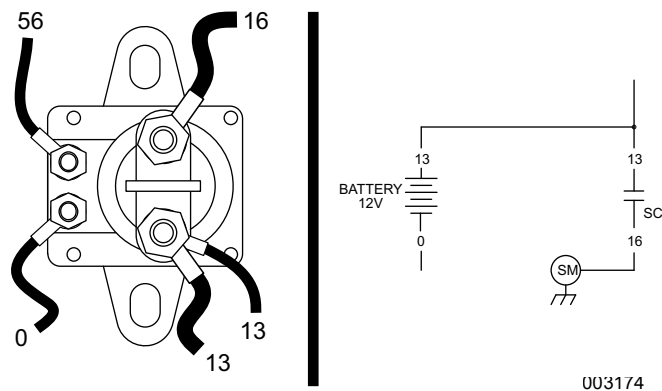

Figure 3-7. The Starter Contactor (Single Cylinder Units)
See Figure 3-7. The Starter Contactor (SC) is located in the engine compartment and is mounted against the firewall. The SC provides the electrical connection to safely engage the starter.